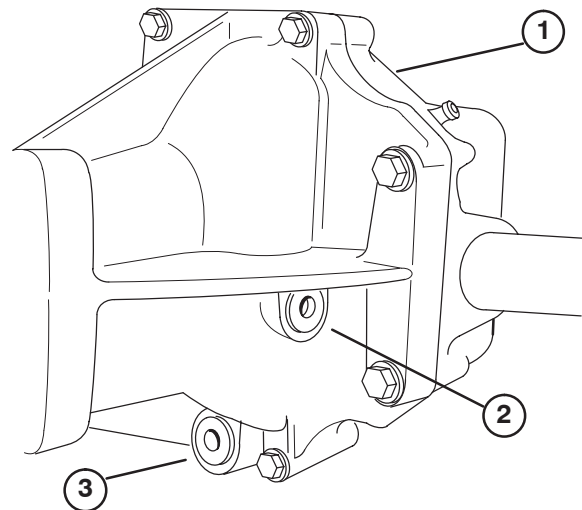

Figure 52
2. Remove drain plug (Fig. 52) from side of reservoir and let hydraulic fluid flow into drain pan.